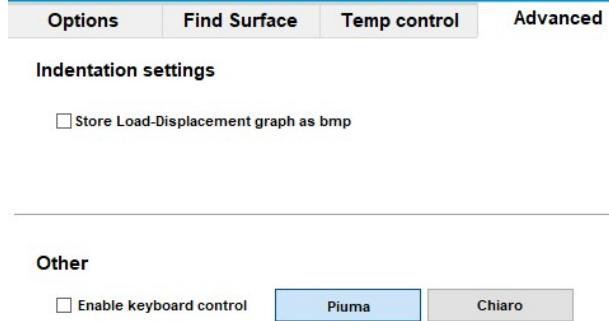

Figure 12: Chiaro selection in the “advanced” options menu.
The optimal way to work with the Chiaro is to have the probe tip of the indentation probe in the middle, or to the side, of the field of view of a 20x or 40x objective. It is advised to start with a 4x or 10x objective to find the XY- and focal Z- position of a probe in the Chiaro. First, bring the Z motorized stage to its highest position by pressing 'Z up' in the stage controls of the main Chiaro software window (Figure 9). Then bring the Chiaro arm to the most extended position. The probe should now be a few millimeters above the objective lens. Use the motorized XY stages to bring the probe by eyesight to the middle position, directly centered above the objective lens. The XYZ stages can be controlled by entering a value in micrometers in the 'Travel' field and pressing one of the motor control buttons (Figure 9). Alternatively, one can use the keyboard arrow keys and the arrow keys at the numbering pad ('Num Lock' should be 'off') (Figure 9). Arrow keys stage movement can be activated in the 'Advanced' tab of the 'Options' menu (Figure 12). Now, use the microscope with the lowest magnification and bring the focal plane of the objective to the Z plane of the probe tip. If the working distance of the objective lens is too low to focus on the probe tip, you can use the Z stage to bring the tip down in the focal plane of the objective lens. It is recommended to use 10 µm-steps to avoid touching the objective lens with the tip! When the tip is in focus, you can reposition the probe by using the motorized XY stages to bring the probe in the field of view (Figure 9).
The correct indenter head, here the Chiaro, must be selected in the ‘Advanced’ tab in the ‘Options’ menu (Figure 12).
1. Open the calibration menu by clicking on the Initialize button in the top section of the software interface, the window shown in Figure 12 will pop up.